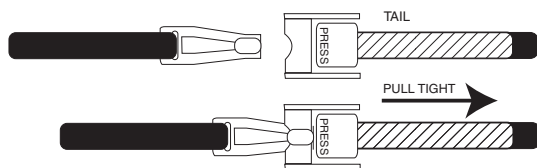

FIGURE 3
- Stand the stick up against the **selected straight tree on dry, level ground.** Take the buckle end of the bottom section strap, wrap it around the tree, and attach it to the snap hook end of the strap. **SEE FIGURE 3.** Pull the strap so that the section is snugly secured to the tree.